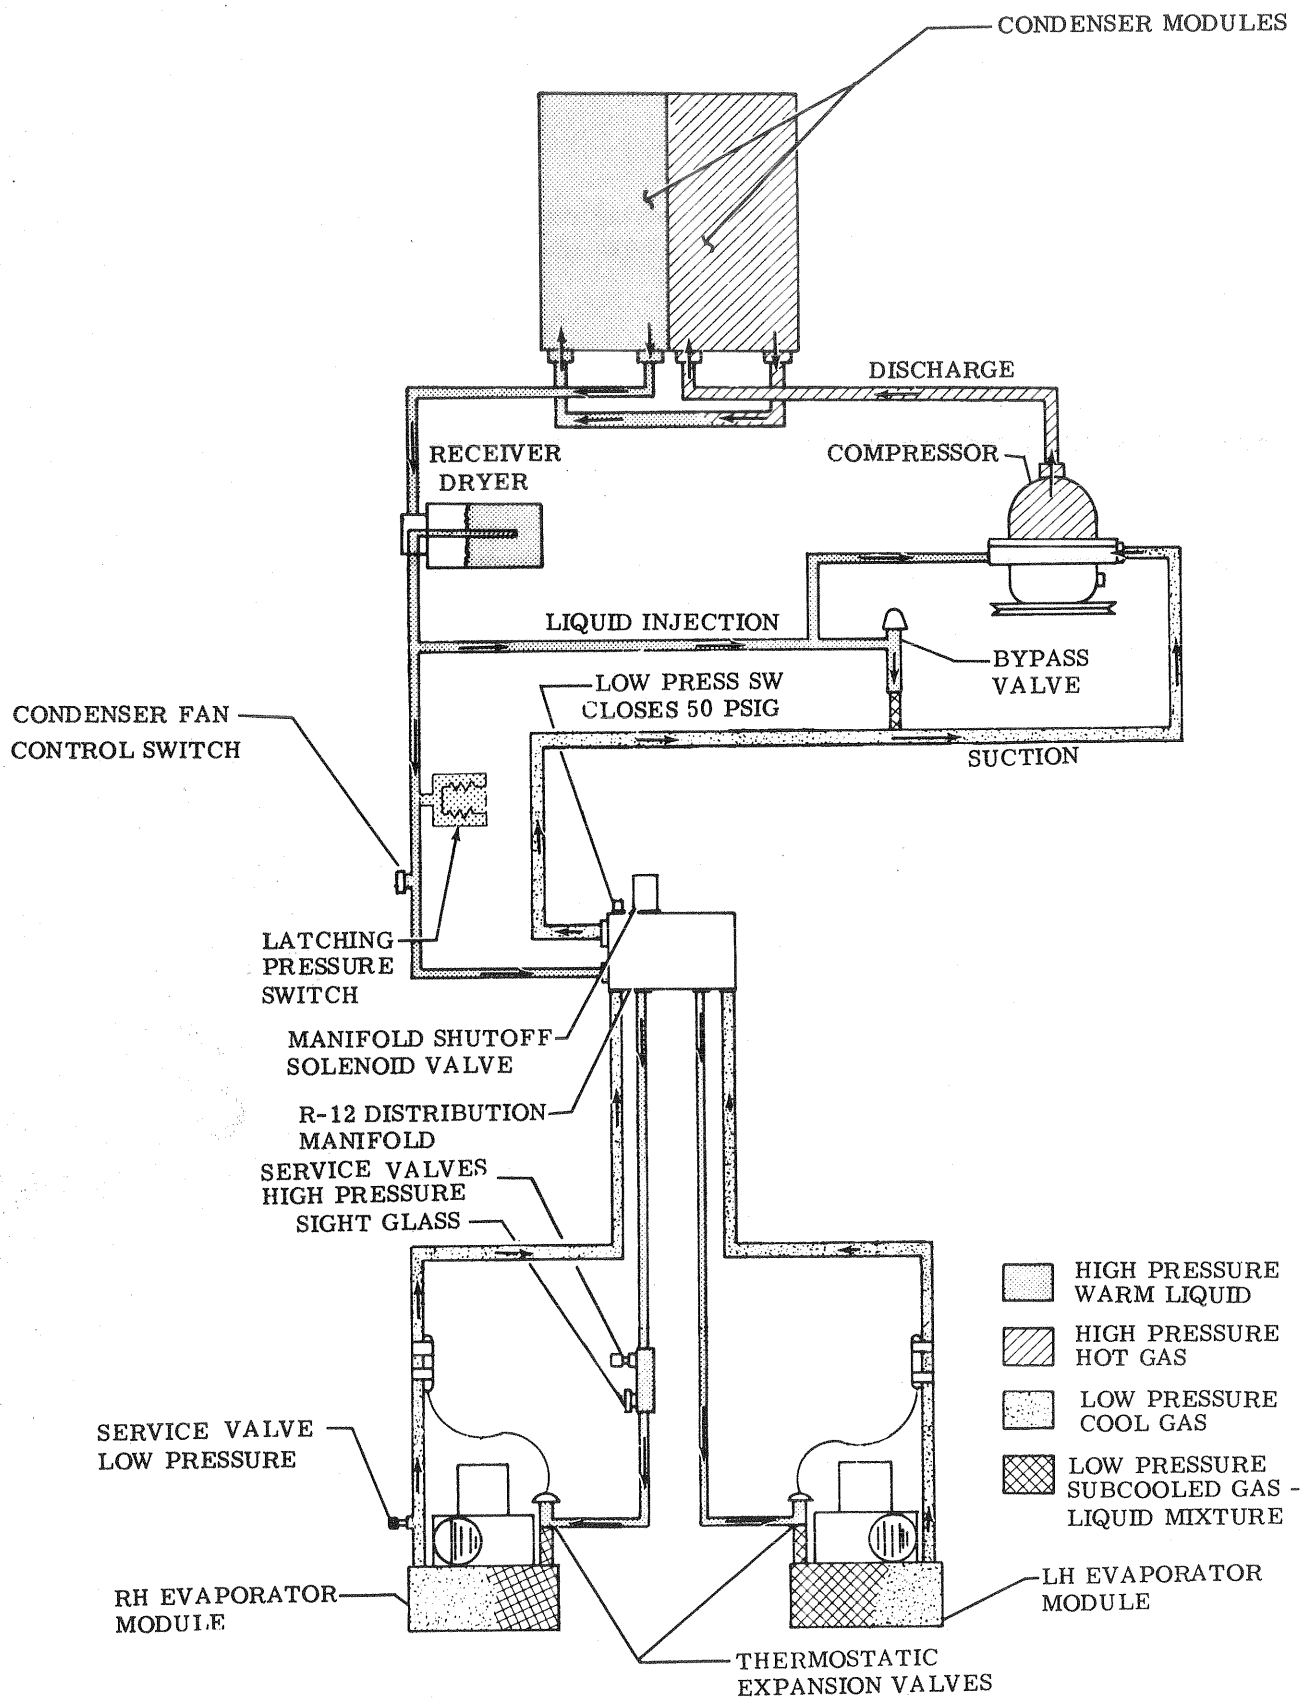
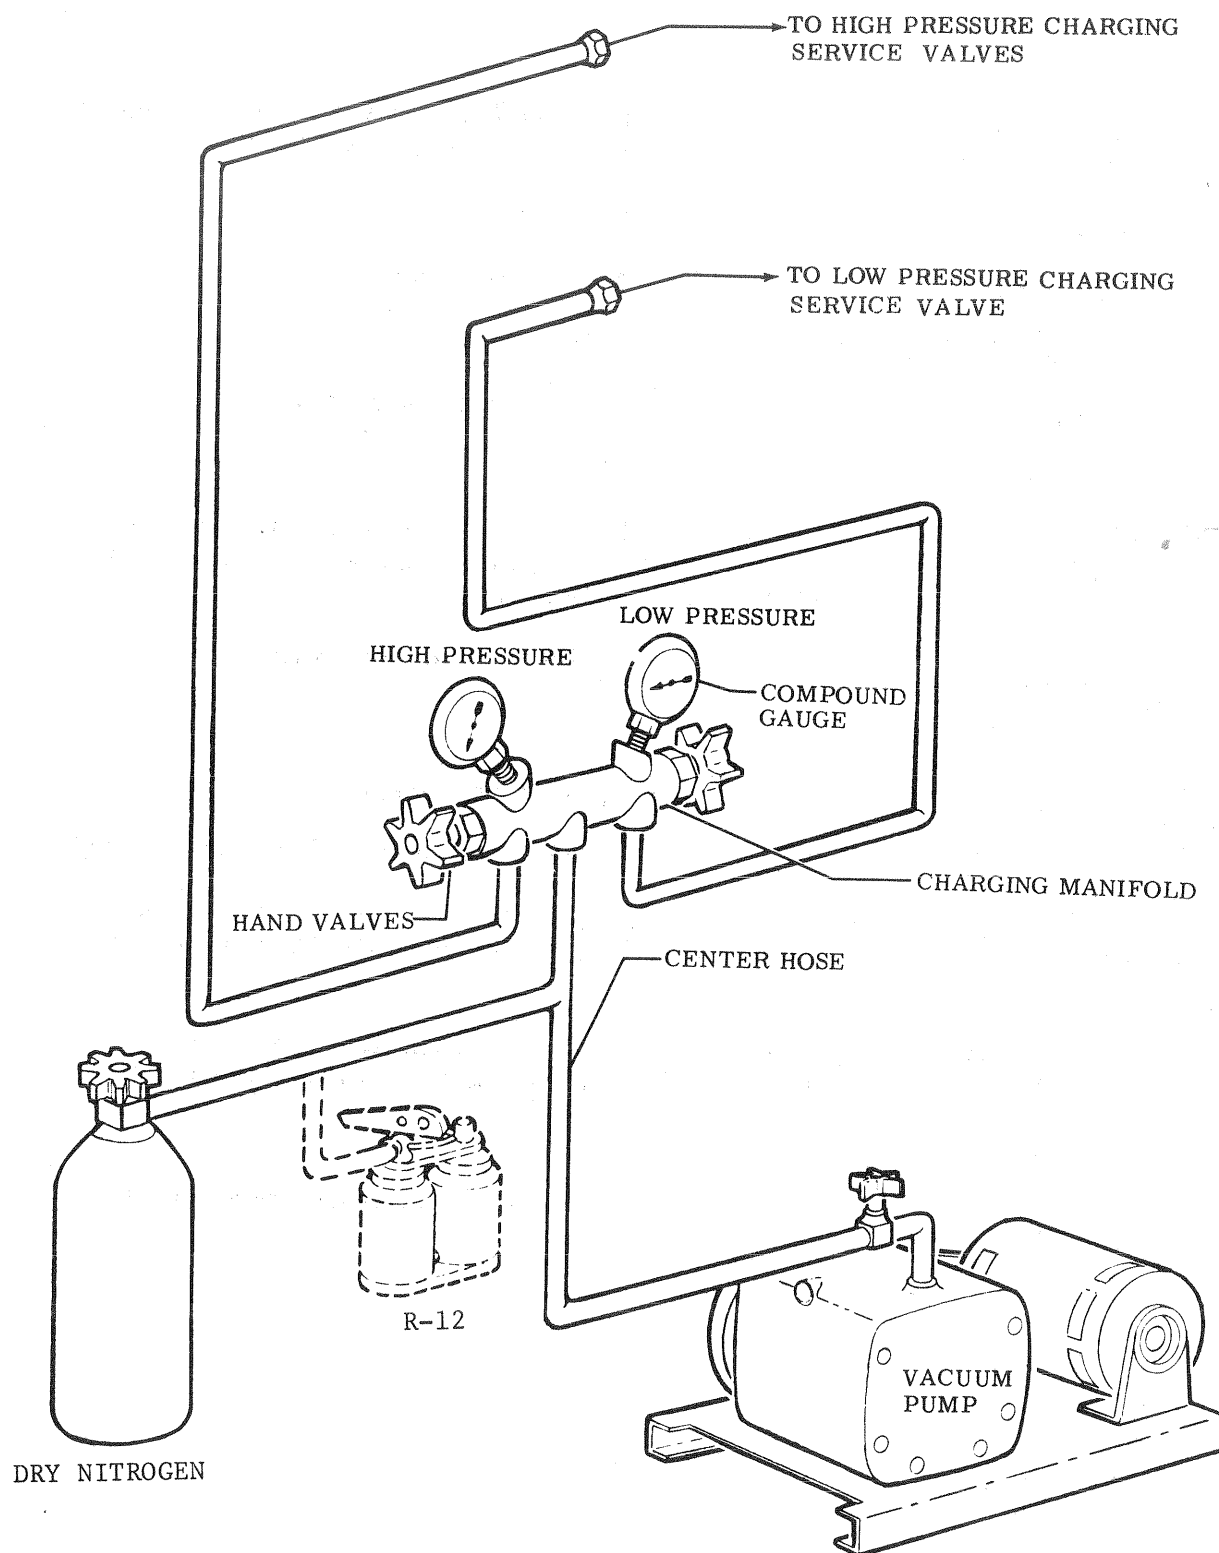

Figure 1. Air Conditioning System Schematic
Figure 2. Test Set-Up and Equipment (Sheet 1 of 2)
NOTE: Refer to Figure 1 for system schematic and Figure 2 for typical test set-up and equipment.
- (1) Connect charging manifold hoses to service valves loosely. (See figure 1, Paragraph Test and Equipment and Materials.) Open both manifold valves and screw down valve on can to puncture seal and open slightly to purge air out of hoses. When hose end fittings become cold to touch, the air is purged. Quickly tighten each fitting, close valves on can, and close manifold valves.
- (2) Jumper low pressure switch if necessary (if ambient temperature is below 55°F). See Paragraph 2.a.(1)(f).
- (3) Run system while observing sight glass and gages.
- (4) If cabin temperature is below 80°F, heater must be run or single wire on temperature control switch to solenoid must be disconnected.
- (5) Frothy sight glass indicates low charge. Note that during low temperature operation (below 55°F) the sight glass will clear with less total charge than during high temperature operation. Add approximately 1/2 pound freon per Paragraph 2.c. If sight glass does not clear after two minutes or gage pressures read from 25-65 psi (low pressure gage) and 75-225 psi (high pressure gage), continue to add freon in approximately two ounce increments, waiting two minutes between each addition until can is empty. If still undercharged, connect the dry nitrogen source and leak check per Paragraph 3.c. Fix leaks, discharge the system per Paragraph 3.h., evacuate, and recharge per Paragraph 3.c. When recharged, check oil level per Paragraph 3.f.
- (6) Clear sight glass and high discharge pressure (over 275 psi) indicate overcharged system. Discharge per Paragraph 3.h., evacuate and recharge per Paragraph 3.e. Recheck oil level per Paragraph 3.f.
(1) See figure 2, Test Equipment and Materials for schematic of the equipment hook-up. Hook up the Charging Manifold Assembly to the high side and low side pressure service valves. This equipment stays in the aircraft during complete functional check thru final charging.
(2) Connect the vacuum pump to charging manifold.
(3) Open valve on vacuum pump and both valves on manifold.
(4) Turn on vacuum pump to begin evacuation of the system.
(5) Continue evacuation a minimum of 30 minutes after the low pressure gage has reached 27 to 29 inches of mercury.
- (6) Close valve on vacuum pump and turn off pump.
- (7) Open valve on freon can and add 1 lb of freon. Can may be inverted for faster filling. Close valve.